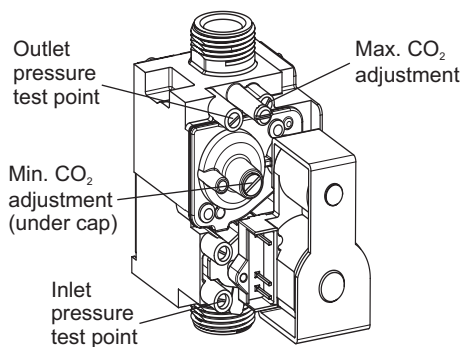

Fig. 26
2. Loosen the gas inlet pressure test point screw on the gas valve (see Fig. 26). Ensure the gas supply is on and open the boiler service cock to purge in accordance with BS 6891.
## 5.6 CHECK THE BURNER PRESSURES - Figs. 26 and 27